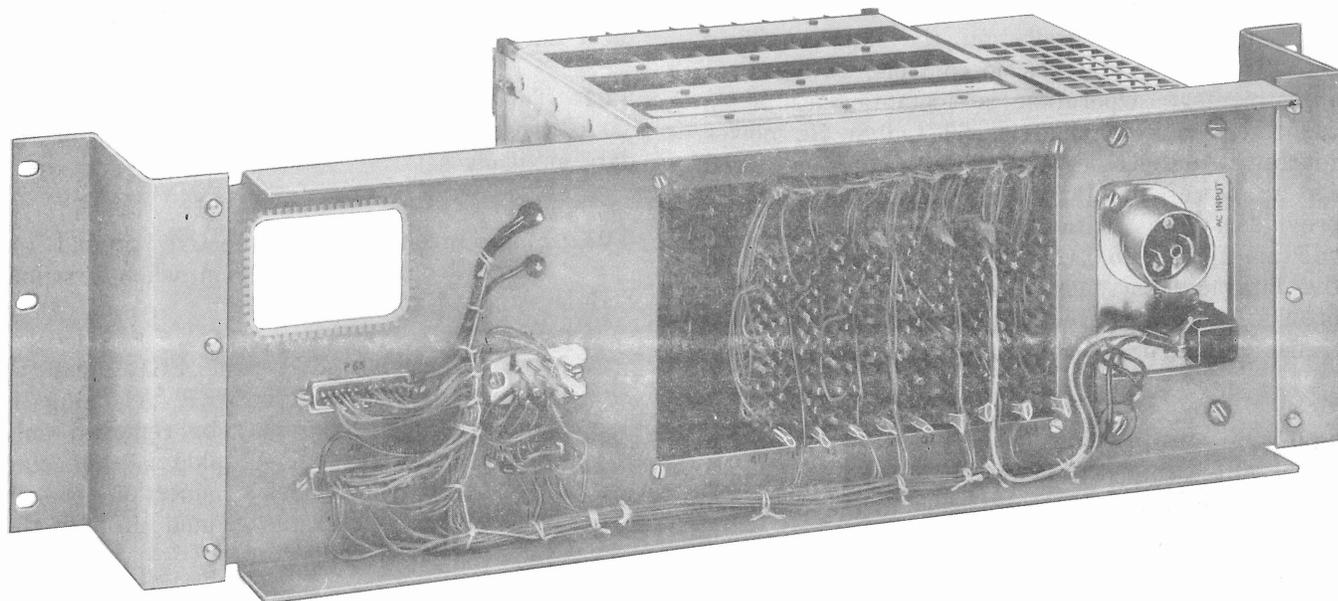

Fig. 2—Data Auxiliary Set 811D1, Rear View
2.04 The data auxiliary set contains nine circuit packs consisting of five different types together with a 26A Power Unit. The circuit pack numbers and reference location numbers on the data auxiliary set are shown in Table A. The equipment location numbers and the AR designations of the circuit packs are stamped on the bottom and top, respectively, of the apparatus mounting. A rear view of the data auxiliary set showing the circuit pack reference location numbers is shown in Fig. 2.